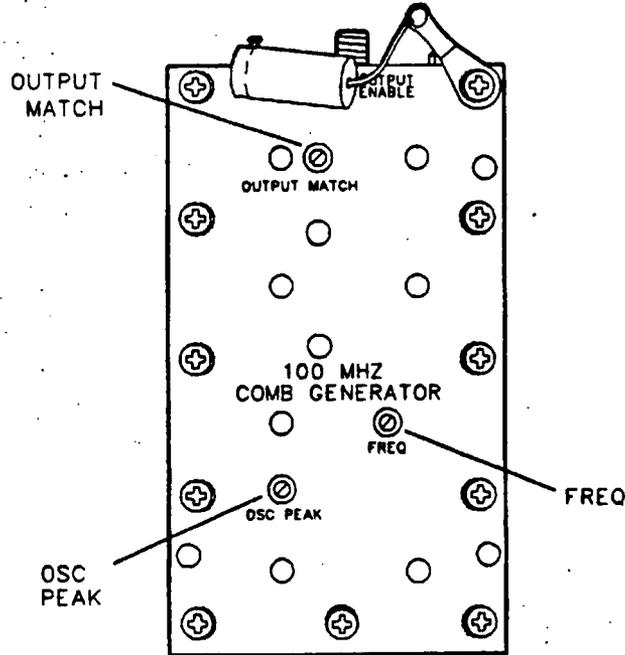

Figure 2-23. Comb Generator Adjustment Location
4. Remove W24 from the A3A1J1 comb generator output connector. Connect the SMA cable to A3A1J1. Refer to Figure 2-23.
8. Adjust A3A1C5 FREQ for 100.000000 MHz \pm 0.00004 MHz. Refer to Figure 2-23 for adjustment location.